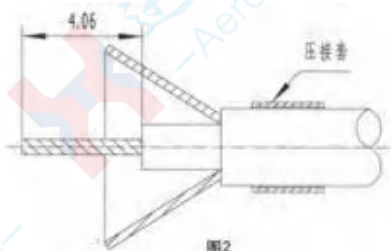

图2
- Whether the crimped points on the appearance are uniform and whether the crimped part is bent (see Figure 2).
② Slide the crimp sleeve backward onto the cable jacket as shown in Figure 2, spread the shield layer, and strip off the cable insulation dielectric.